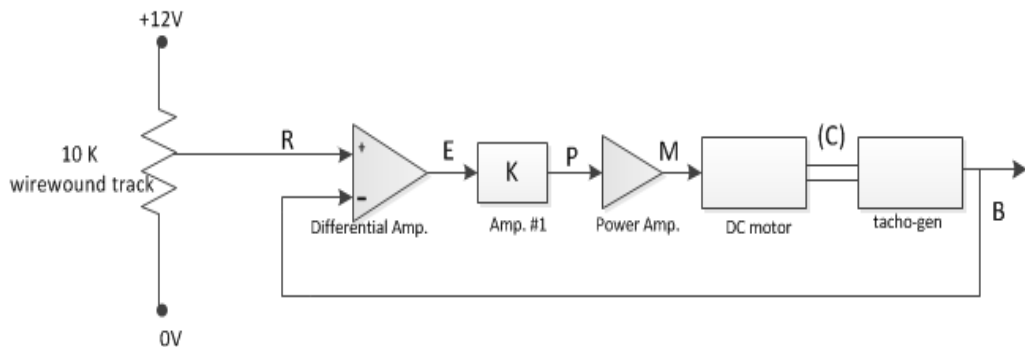

Figure 3. System block structure
- 3.3. Draw block diagram representing the system in Figure 3. Indicate all signals and blocks with their names in the control systems terminology.